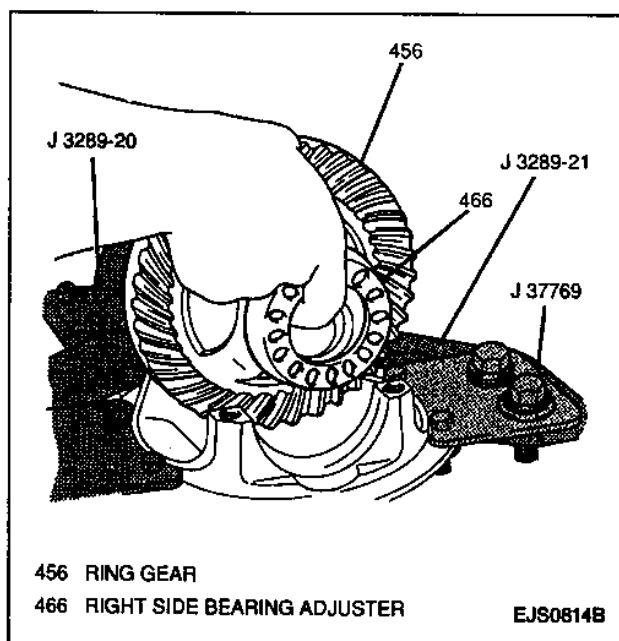

Figure 81—Installing Differential Assembly Into Differential Carrier
10. Differential assembly into the differential carrier (Figure 81).